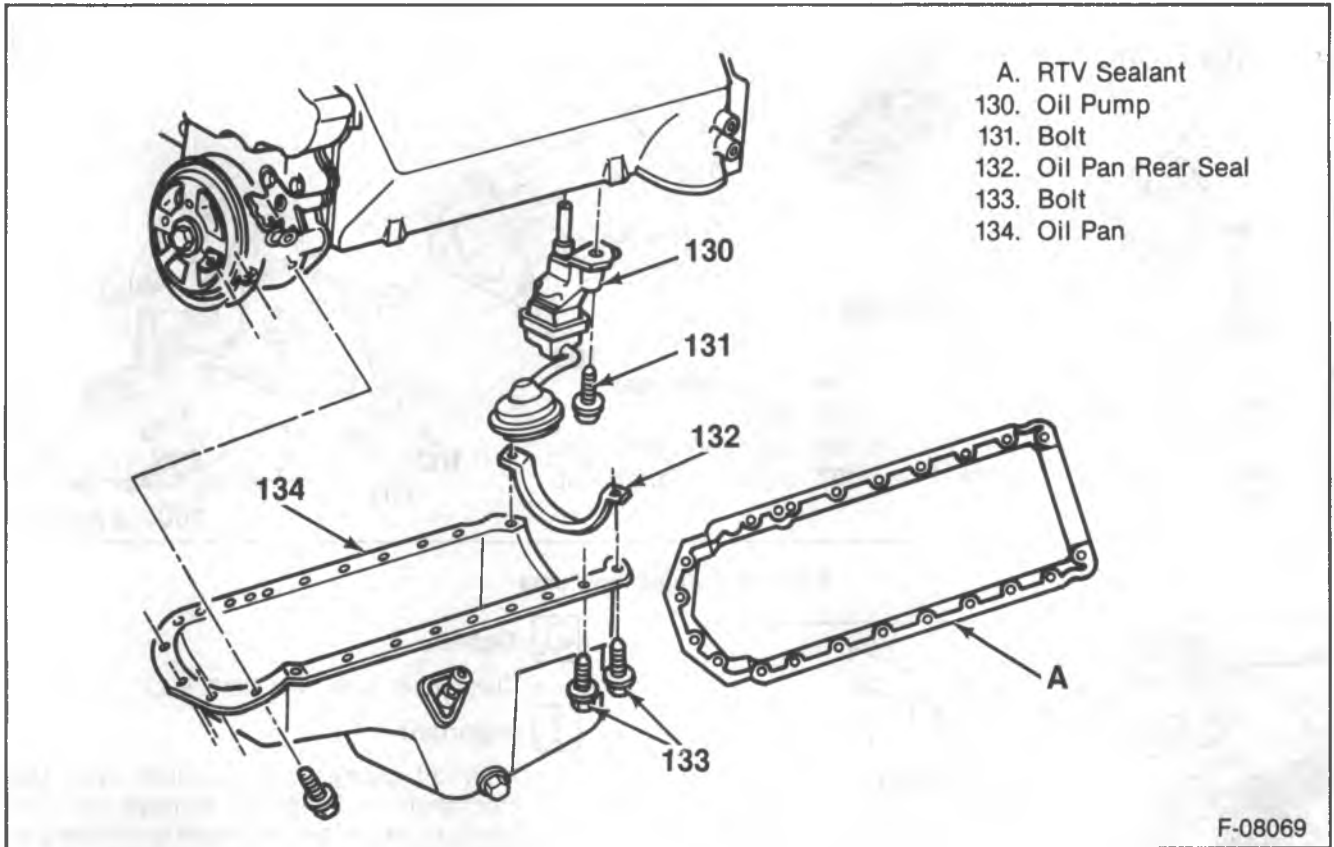

Figure 43—Oil Pan and Oil Pump
Install or Connect (Figure 43)
**Install or Connect (Figure 43)**